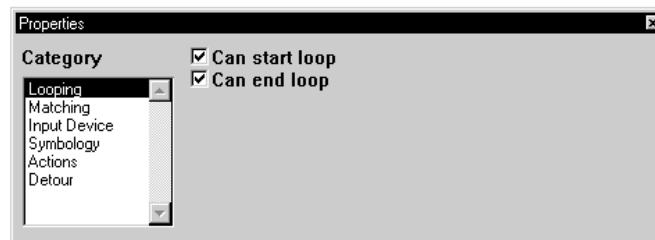

Figure 4-8 Properties Window
9. The **Properties** window opens (Figure 4-8).